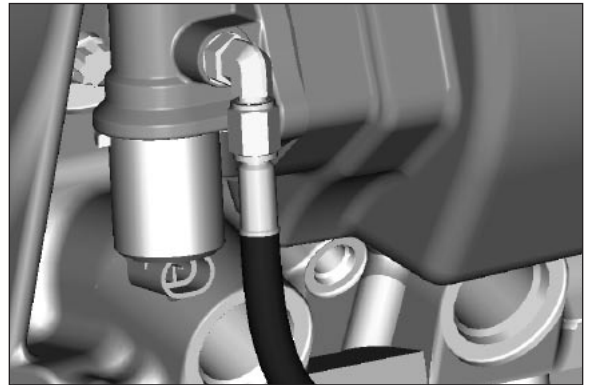

Fig. 9
8. Securely attach the high pressure line to the valve. Tighten hose end fitting 2 flats from finger tight (**Fig. 9**).